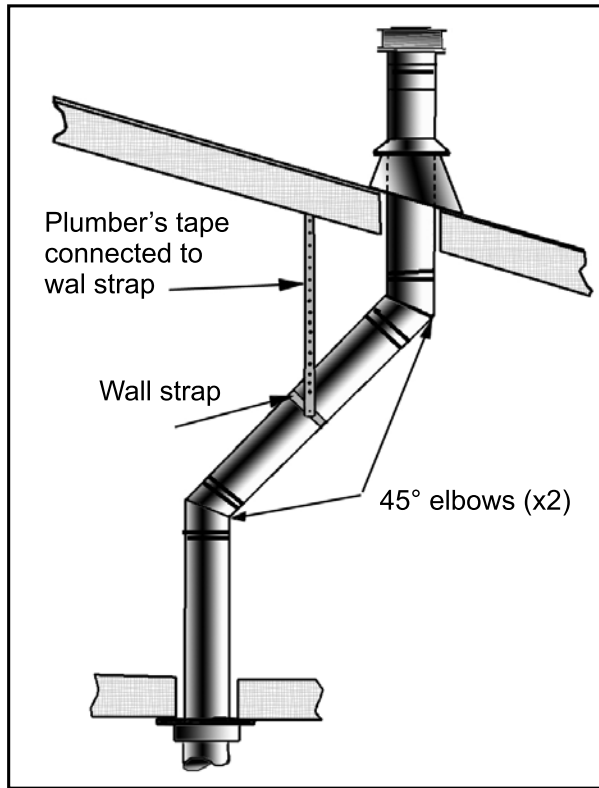
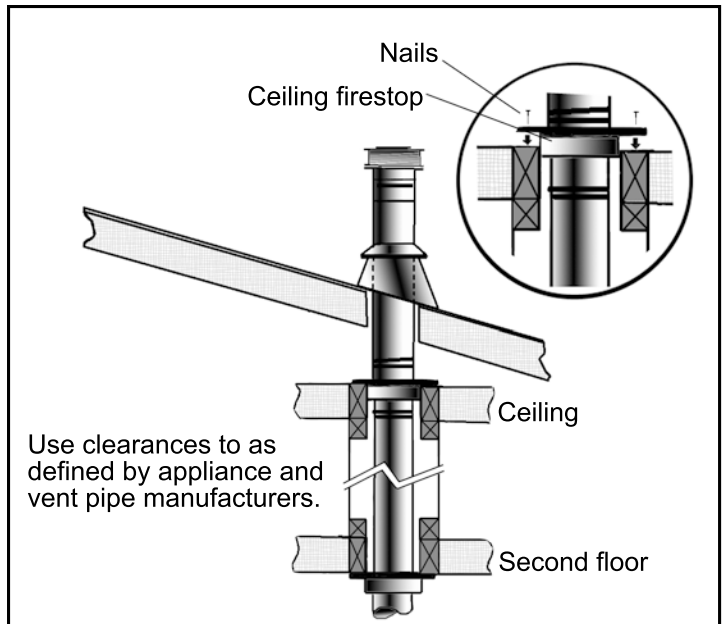

Figure 39: Use of Wall Straps.
Figure 40: Multi-Story Vent Pipe Installation.
Table 7: Minimum 'H' for Figure 39.
- (1)** If an offset is necessary in the attic to avoid obstructions, it is important to support the vent pipe every 3 feet (914 mm), to avoid excessive stress on the elbows, and possible separation. Wall straps are available for this purpose (see Figure 39).
- (2)** When ever possible, use 45° degree elbows instead of 90° degree elbows. The 45° degree elbow offers less restriction to the flow of flue gases and intake air.
- (3)** For multi story installations; a ceiling firestop is required at the second floor, and any subsequent floors (see Figure 40). The opening should be framed to 10" (254 mm) x 10" (254 mm) inside dimensions, in the same manner as shown in Figure 28.
- (4)** Any occupied areas above the first floor, including